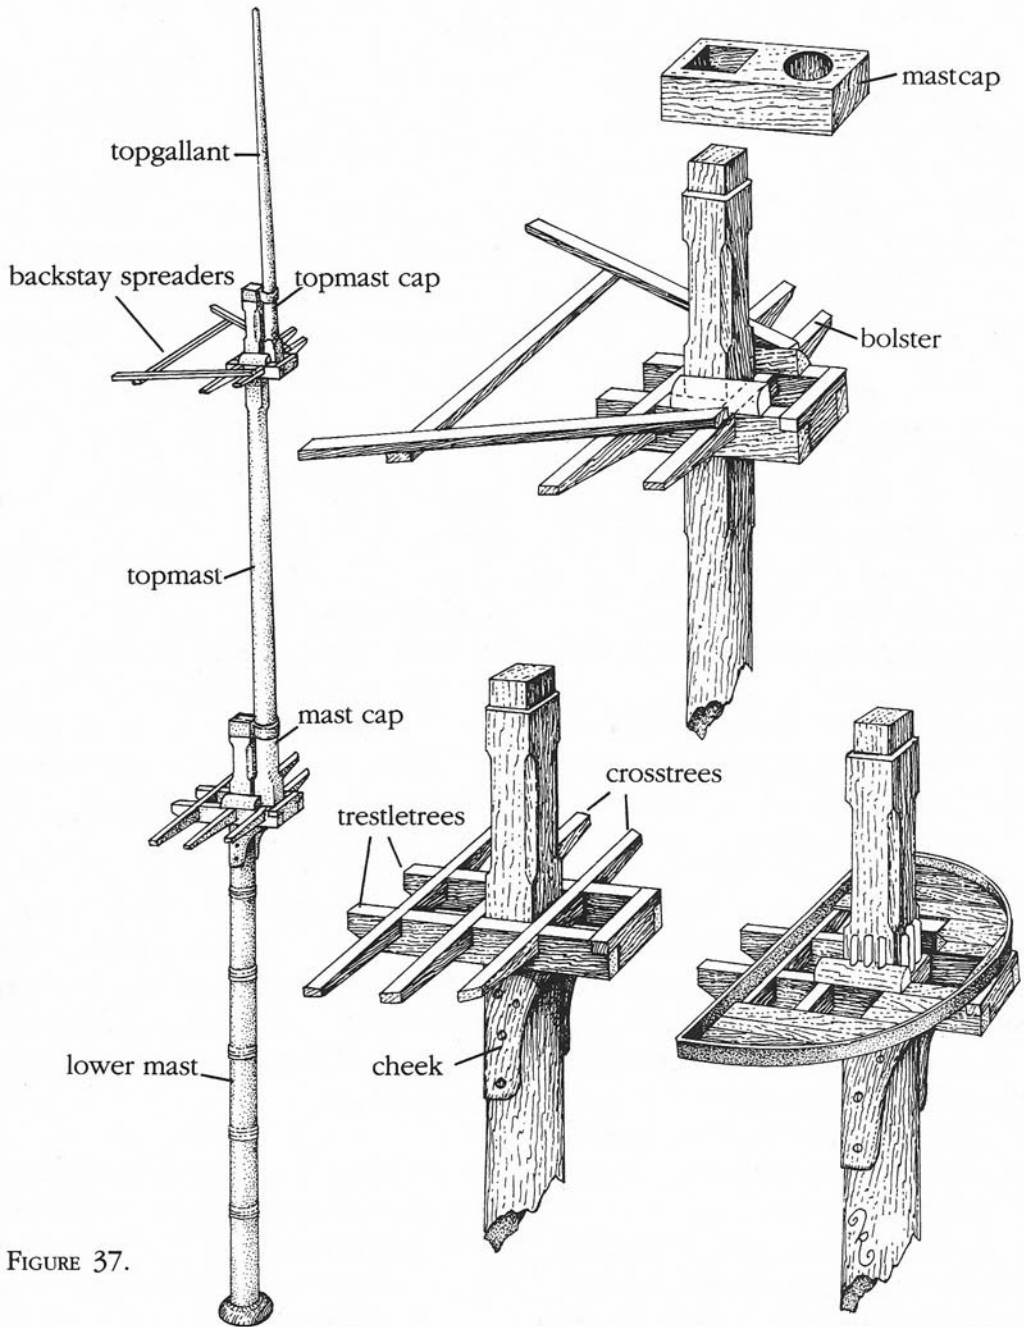
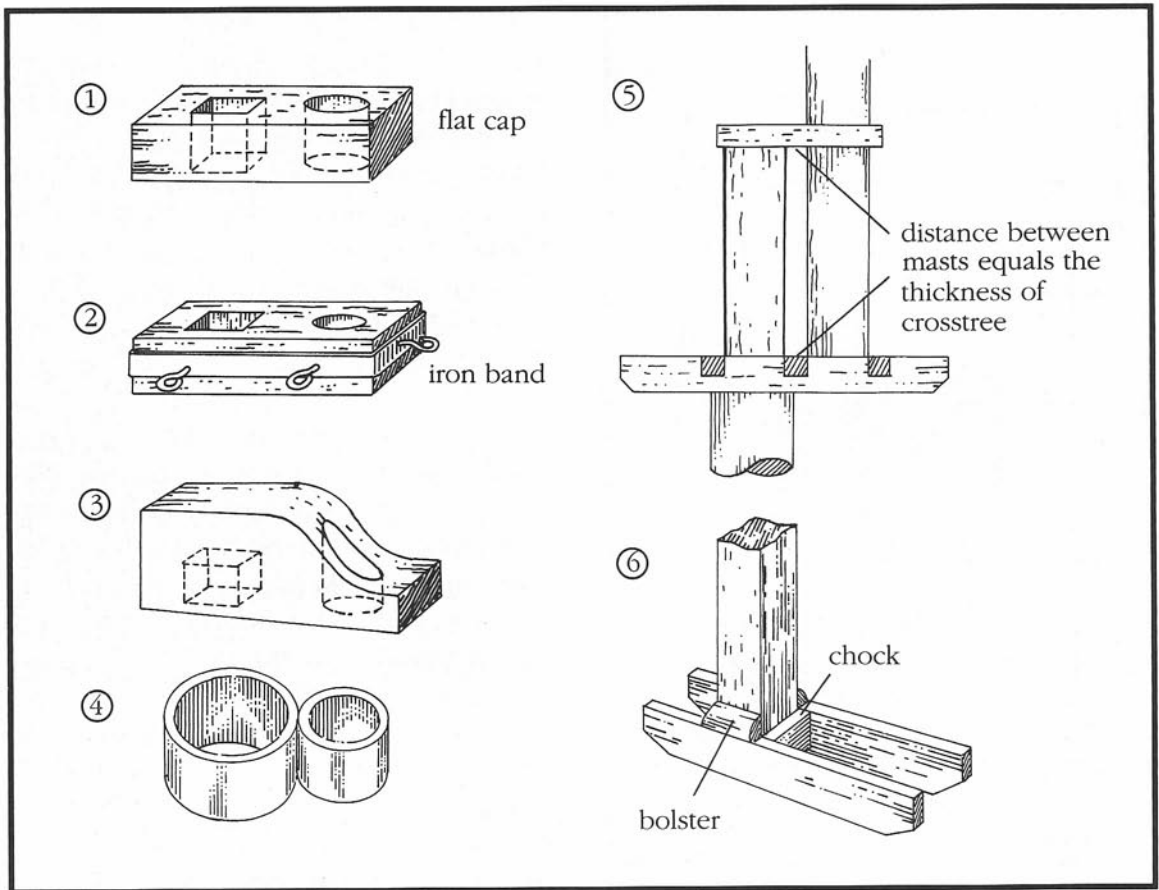

FIGURE 37.
FIGURE 40. Mastcap components.
FIGURE 37. *Masts were a study in strength and utility. The lowest — and thickest — mast often was constructed from longitudinal sections banded together. At its top sat an assembly of crossrees and trestletrees supported by cheeks; this assembly was often planked over to provide a working platform. Moving up the mast you'd find two more sections: the topmast (not the highest section as one would think), and then the topgallant. A mastcap held these two higher sections together and helped support the top crossrees assembly.*
Crosstrees and trestletrees are notched together so their top edges are flush. Figure 37 will give you an idea how they work. The trestletrees are set and glued on top of the cheeks and against the sides of the mast. The spacing of the crosstrees, which run perpendicular to the trestletrees, depends on the model you're building.
Another part of the top's framing consists of *bolsters*, wood blocks rounded on one side to provide a smooth surface on which the shrouds can rest (see Figure 37). You can make bolsters by filing one corner of a square piece of stock, or you can buy quarter-round molding in a hobby shop.
MASTCAPS. Just above the masttop you'll find the *mastcap* — a collar that held two mast sections together when one was erected at the head of the other, as in Figure 37. While mastcaps will vary in shape, material (wood, iron, steel), and size depending on the era, they all have two holes through which the two mast sections must pass (Figure 40). Most kits will supply precut or precast mastcaps; you can also buy mastcaps from suppliers. Here are a few types you may find in your kit: one wooden piece (1); two pieces held together by an iron band (2); wood in the shape of a boot (3); or two iron hoops welded together (4).